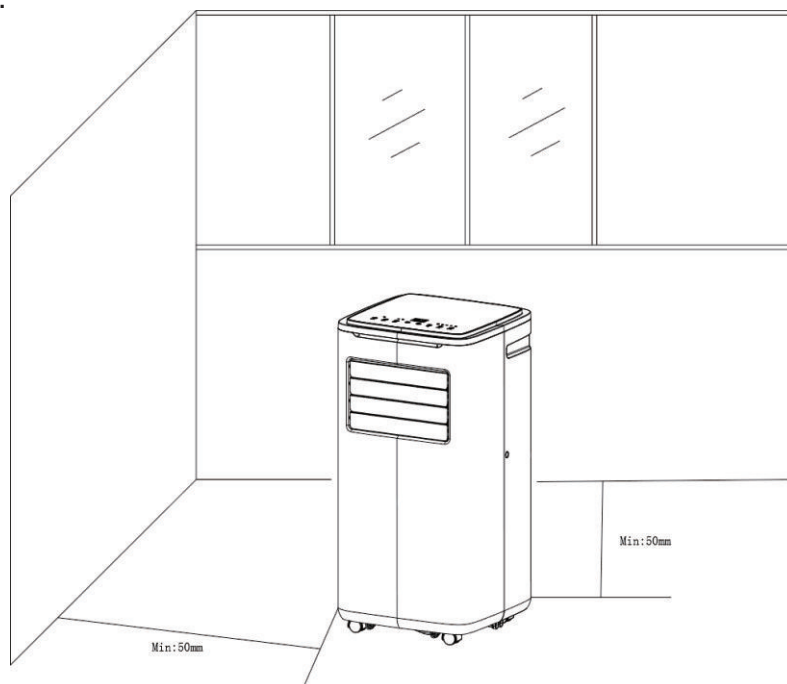

Figure4
- 4) Move the unit with installed heat pipe and fittings before the window, and the distance between the body and walls or other objects shall be least 50 cm (as shown in Fig.4).